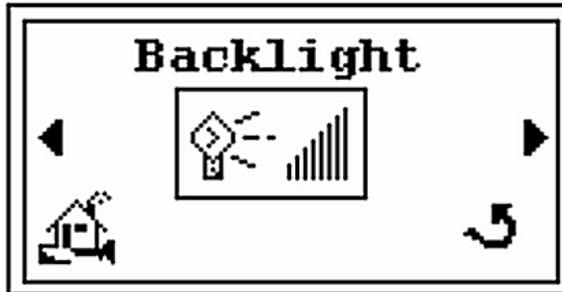

Figure 2-45 Backlight Screen
2. Press the  and the *Backlight* screen appears (Figure 2-45).